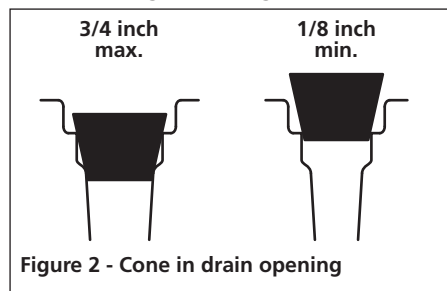

Figure 2 - Cone in drain opening
2. Select proper cone by fitting cone into drain opening. The drain opening should seal around the cone between 3/4 inch and 1/8 inch of its height (see Figure 2).